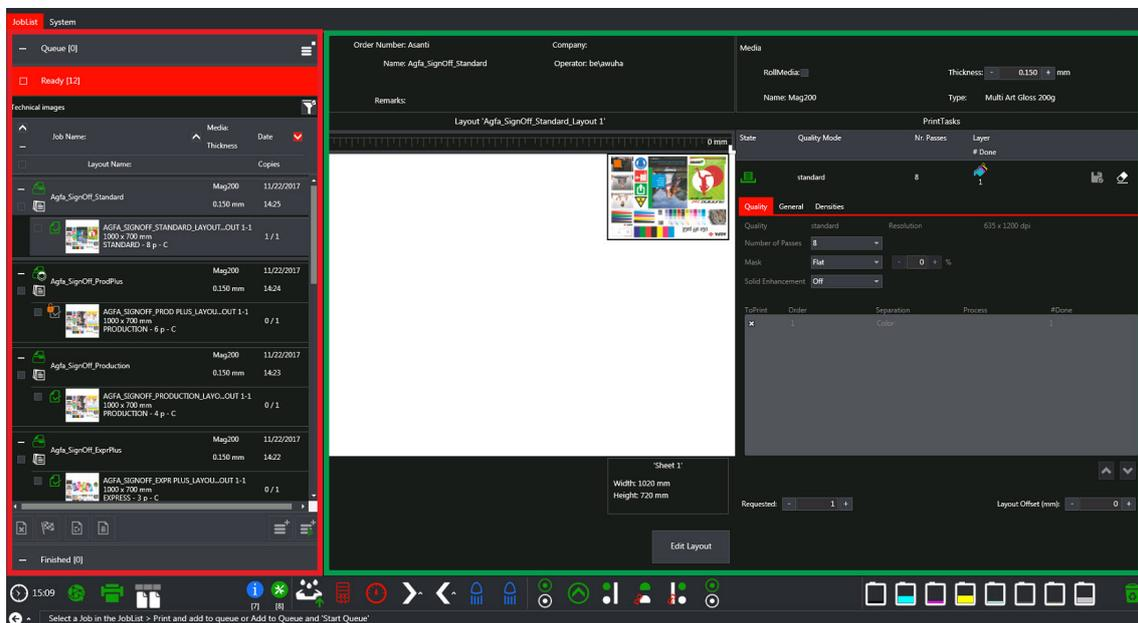

Fig.6-16: Job Environment Window
- The lay out details pane (outlined in green in Fig.6-16)